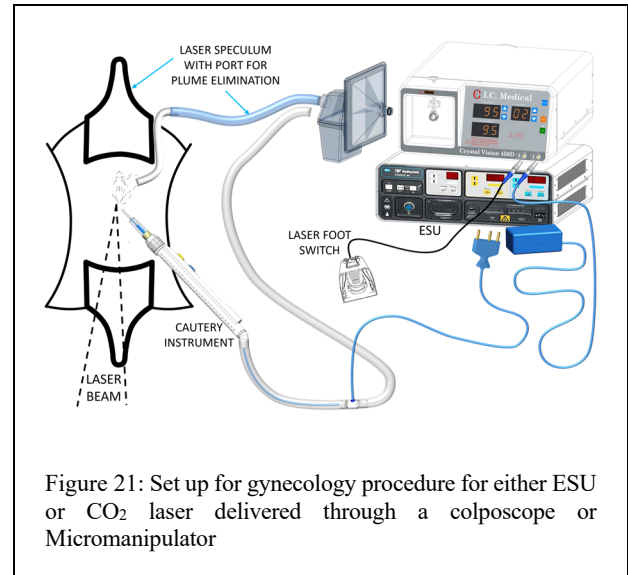

Figure 21: Set up for gynecology procedure for either ESU or CO₂ laser delivered through a colposcope or Micromanipulator
3. Refer to Figure 21 for set-up.